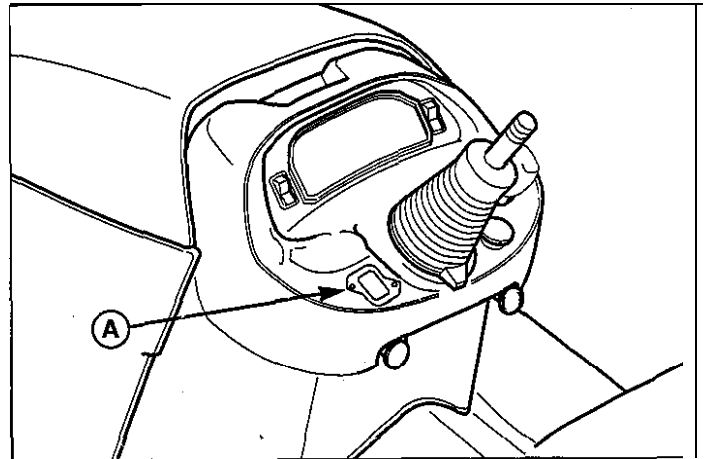

Figure 6. Switch Template
1. Using the template (A, Figure 6) and a scratch awl, scribe the switch hole pattern into the lower left corner of the dashboard as shown.